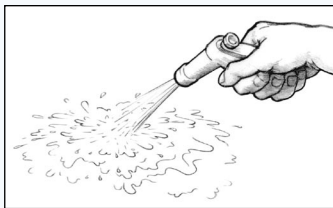

Figure 33 Rinse the surface with fresh water after sanding.
4. When satisfied with the texture and fairness of the surface, rinse the surface with fresh water which should flow evenly without beading or fisheyeing. If the rinse water forms into droplets or beads (a sign of contamination), wipe the area dry with a paper towel, then wet sand again until all water droplets are eliminated. (*Figure 33*).